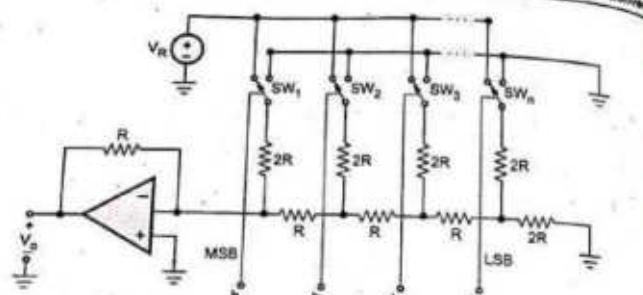

Fig. 6.2.7 R/2R ladder DAC converter
- In this type, reference voltage is applied to one of the switch positions, and other switch position is connected to ground, as shown in the Fig. 6.2.7.